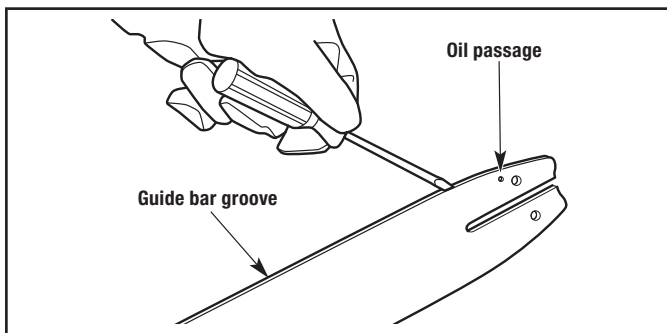
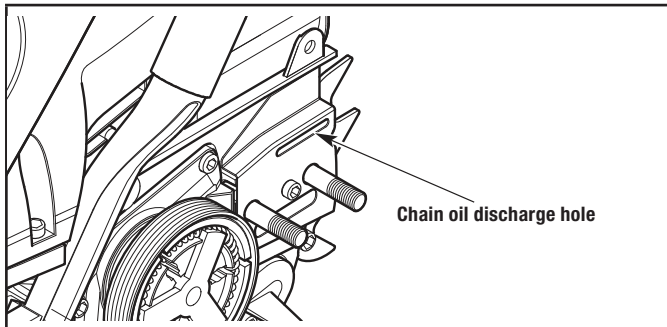

Figure 37
Figure 38
2. Clean the guide bar groove and oil passages whenever the saw chain is removed, when the chainsaw has been used heavily or when the saw chain appears dirty. Use a screwdriver, putty knife, wire brush or similar instrument to remove debris from the guide bar groove (Fig. 37). Use a small, soft wire to remove any debris from the chain oil discharge hole (Fig. 38).